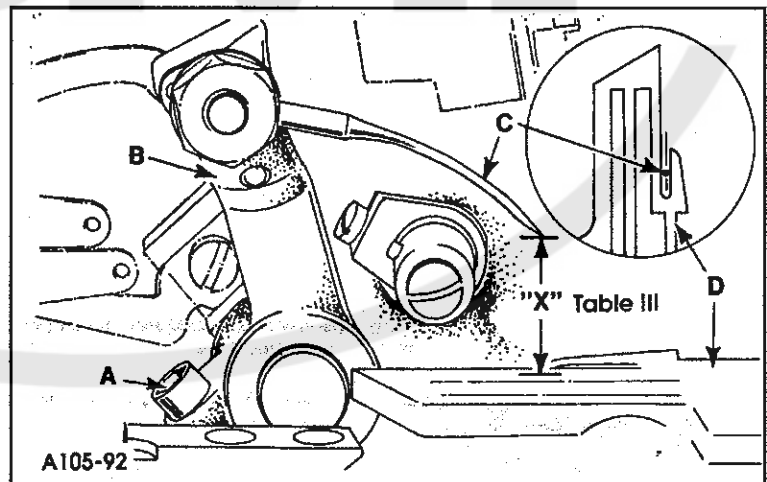

Fig. 6
The needle must be centered from right to left in the needle slot of the throat plate. If adjustment is necessary, loosen screw (A, Fig. 6) and reposition needle driving arm (B) right or left to center needle (C) in needle slot of throat plate (D). Temporarily tighten screw (A).
Turn the handwheel in operating direction until needle driving arm (B, Fig. 6) is at its highest position. At this time, the distance from the tip of needle (C) to the surface of throat plate (D) should be within the "X" dimension listed on Table III.
If adjustment is necessary, loosen screw (A, Fig. 6) and move arm (B) forward or rearward as required being careful not to disturb the right to left needle alignment. Tighten screw (A).